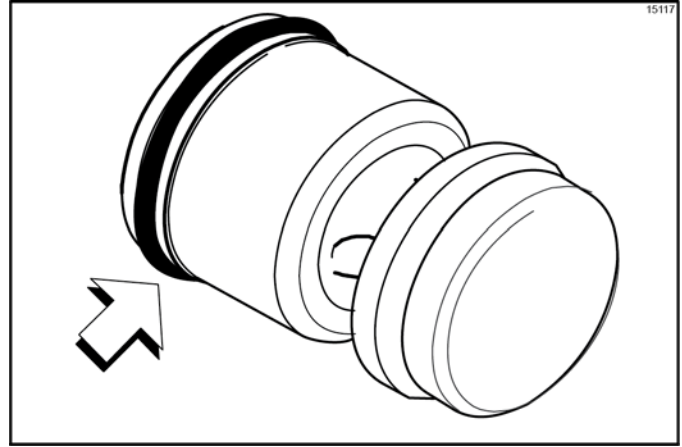

Figure 6-35
2. Assemble the piston. Slide the red O-ring into the groove of the piston. **Do not** lubricate the O-ring. (See Figure 6-35.)